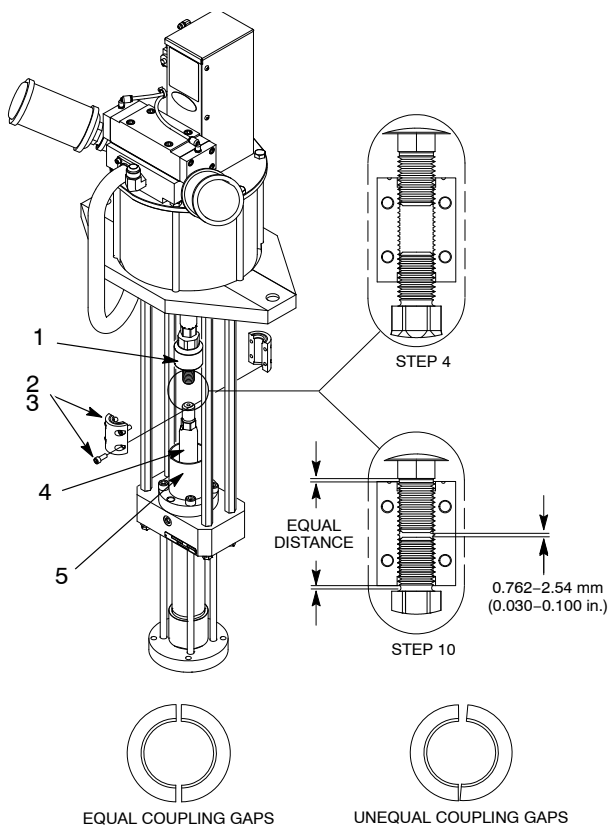

Figure 4 Installing the Coupling Halves
OFF	<p>NOTE: The coupling halves are a matched set. Each half is stamped with the same serial number.</p> <ol style="list-style-type: none"> See Figure 4. Make sure that the grooved end of each half is facing upward. Position both halves (2) over the coupling shaft (1) and the plunger rod (4) as shown. Make sure that three threads of the coupling shaft and the plunger rod are engaged in coupling. Secure coupling the halves with coupling screws (3). Make sure that the bleed valve on the pump body is open and not plugged.